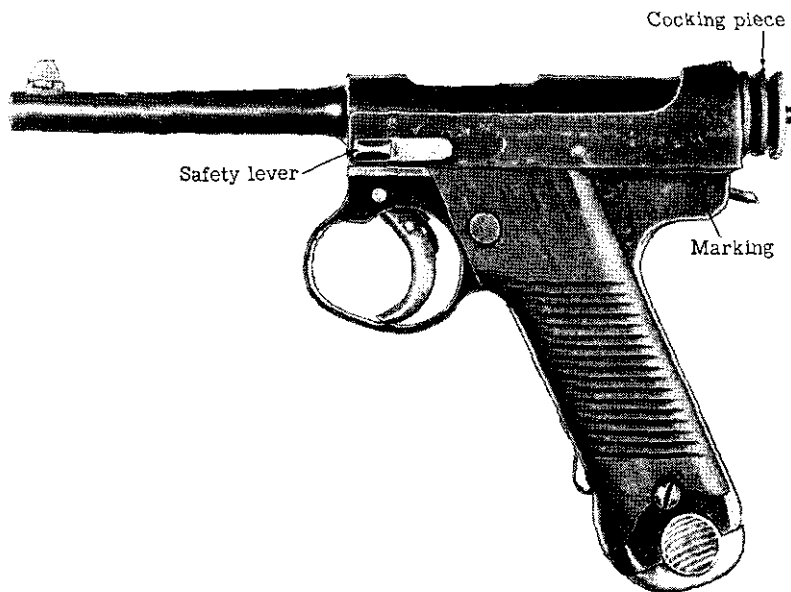

Figure 8.—Model 14 (1925) 8-mm pistol (left side).
The Model 14 (1925) 8-mm pistol (fig. 8) is a development of the *Nambu* (par. 5, p. 7). Both pistols use the same ammunition. The design, like that of the *Nambu*, is original, but the workmanship is usually poor. Un-
- (1) The horizontally grooved wooden grips.
- (2) The distinctive shape of the cocking piece at the rear end of the bolt.
- (3) The absence of the recoil-spring housing on the left side of the receiver, noticeable on the *Nambu*.
- (4) The marking 十四年式 which is on the left side of the receiver at the rear (fig. 8). (This marking,